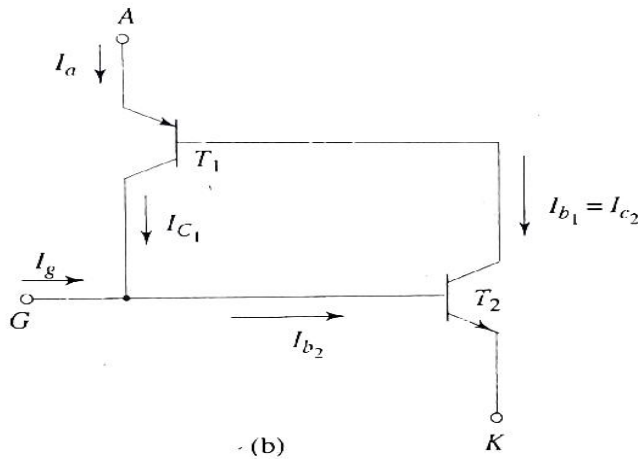

Fig. 1.4 Two transistor analogy of SCR
- The SCR can be considered as an **nnp** & a **pnnp** transistor, where the collector of one transistor is attached to the base of the other & **vice-versa**, as shown in Fig.1.4.
From Fig. 1.4, it is evident that the anode current of the device becomes the emitter current of transistor  $T_1$  that is
From the Fig. 1.4, it is also observed that the cathode current of the SCR becomes the emitter-current of transistor  $T_2$ .